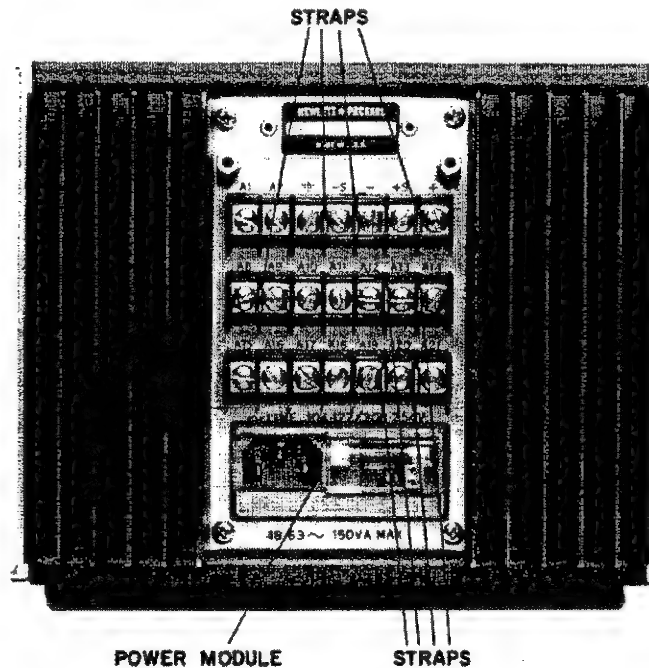
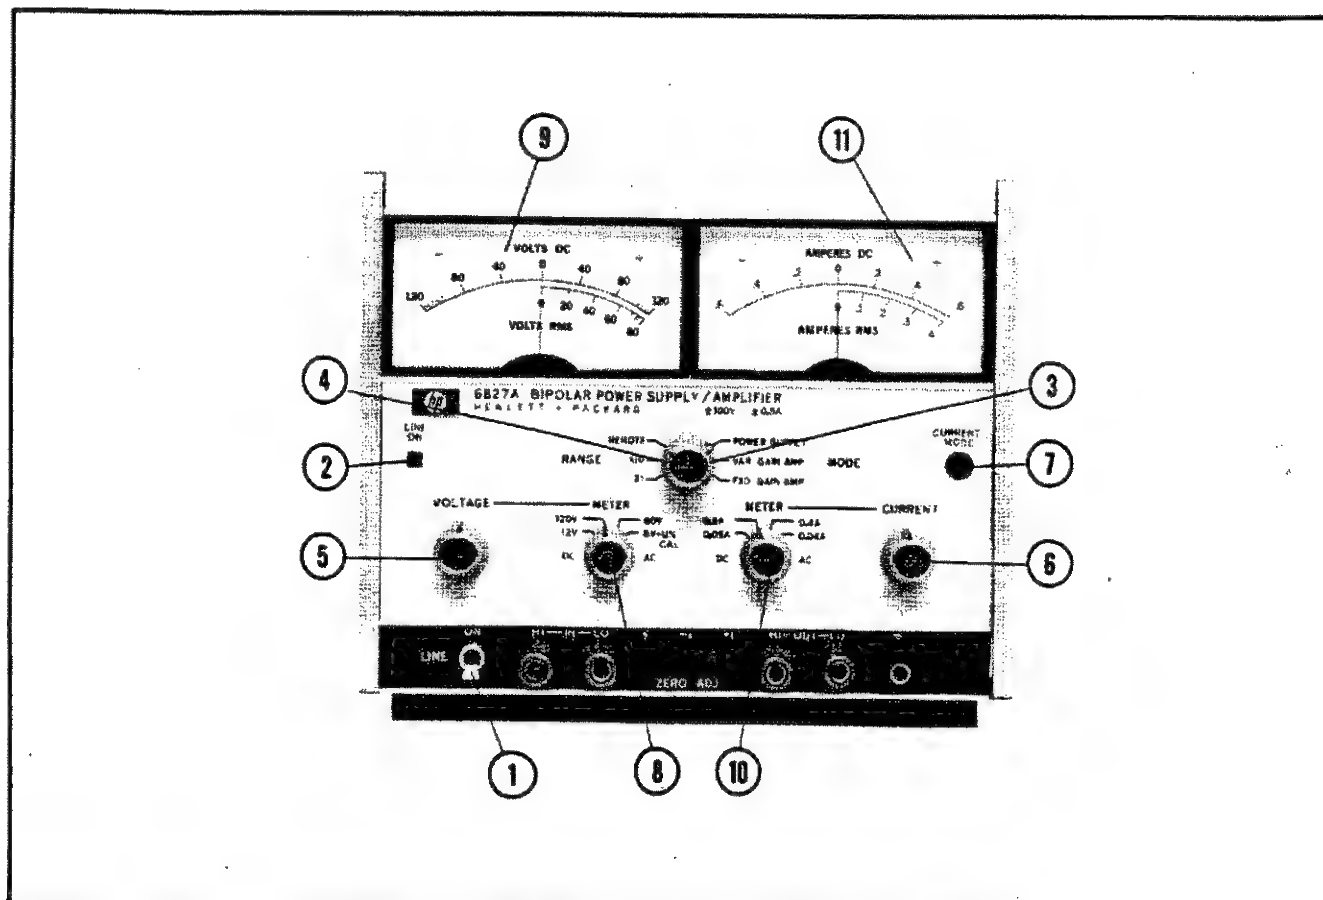

Figure 3-1. Bipolar Power Supply/Amplifier, Rear View
Figure 3-2. Operating Controls and Indicators (Typical BPS/A)
3-4 The Bipolar Power Supply/Amplifier (BPS/A) is shipped with the rear terminals strapped for local programming (using front panel controls) as shown in Figure 3-1. Remote programming strapping requirements are described in subsequent paragraphs. The power module contains fuse F1 (2A for 115Vac or 1A for 230Vac) and a slide switch for connecting 115Vac or 230Vac input power to the instrument. To turn on the BPS/A, set the LINE switch (item ①, Figure 3-2) to ON. The LINE ON indicator ②
3-21 The following turn-on and checkout procedures are performed utilizing the front panel controls (Figure 3-2) and the normal rear terminal strapping connections as received from the factory. Also, the Local/Auto switch, located inside the instrument on board A2, is in the Local position (pushed to the right or toward the rear of the instrument) as received from the factory. The AUTO position is used for auto-series and auto-parallel operations (see